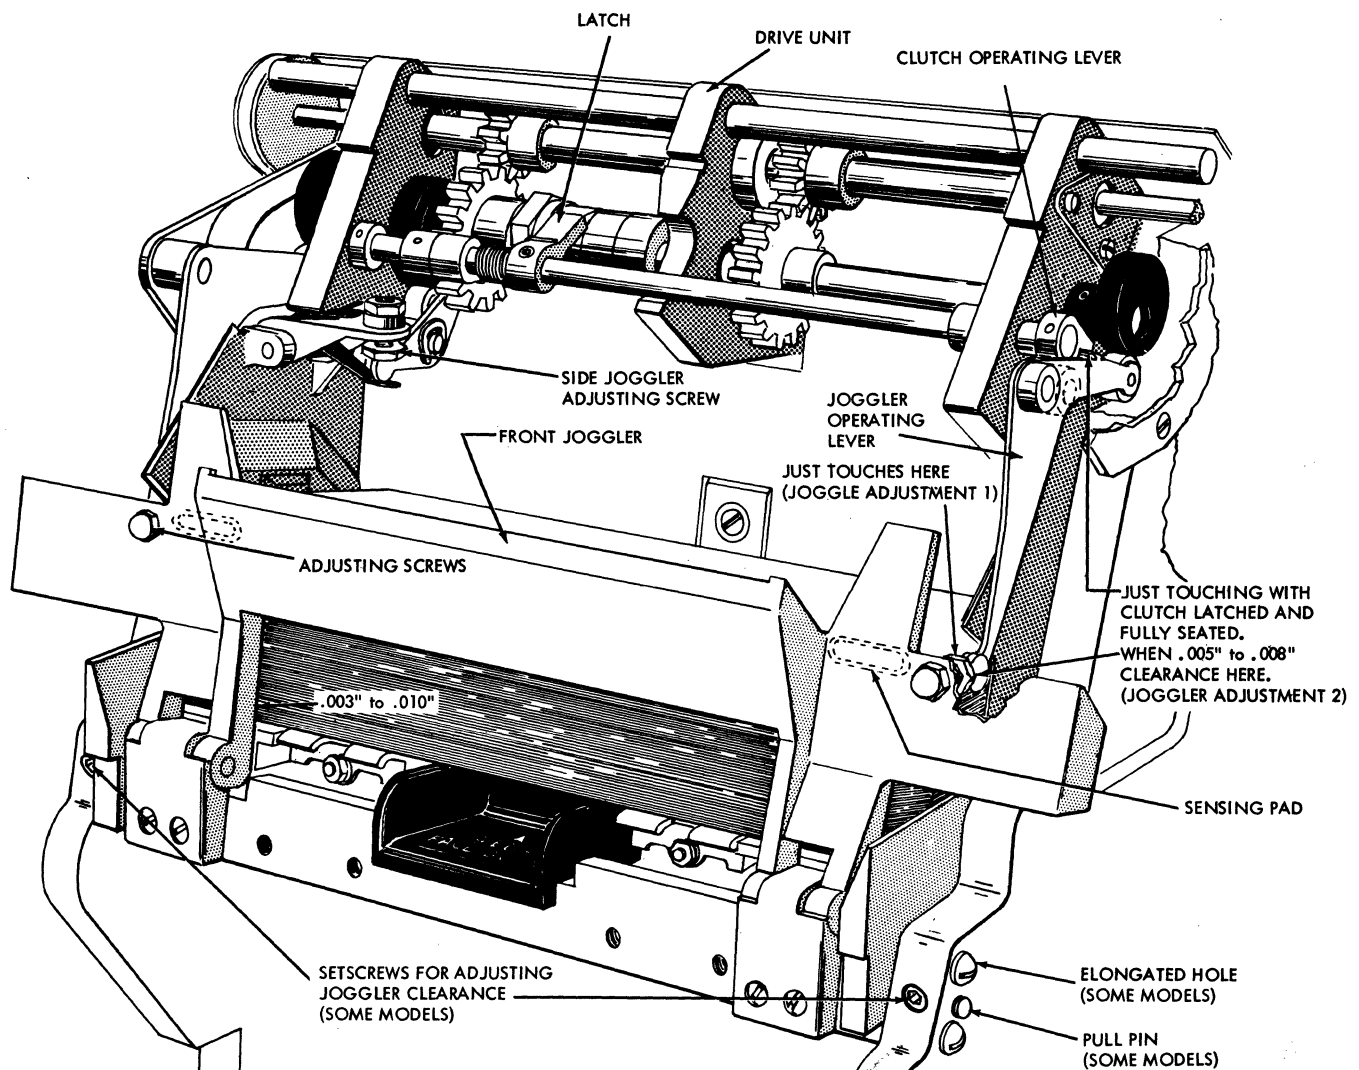

Figure 3-8. File Feed Adjustments
1. Crank file feed drive unit until front jogger cam followers are on low dwell. See Figure 3-8. Fill hopper to just below sensing pads on front jogger, and close jogger. Set adjusting screws on jogger